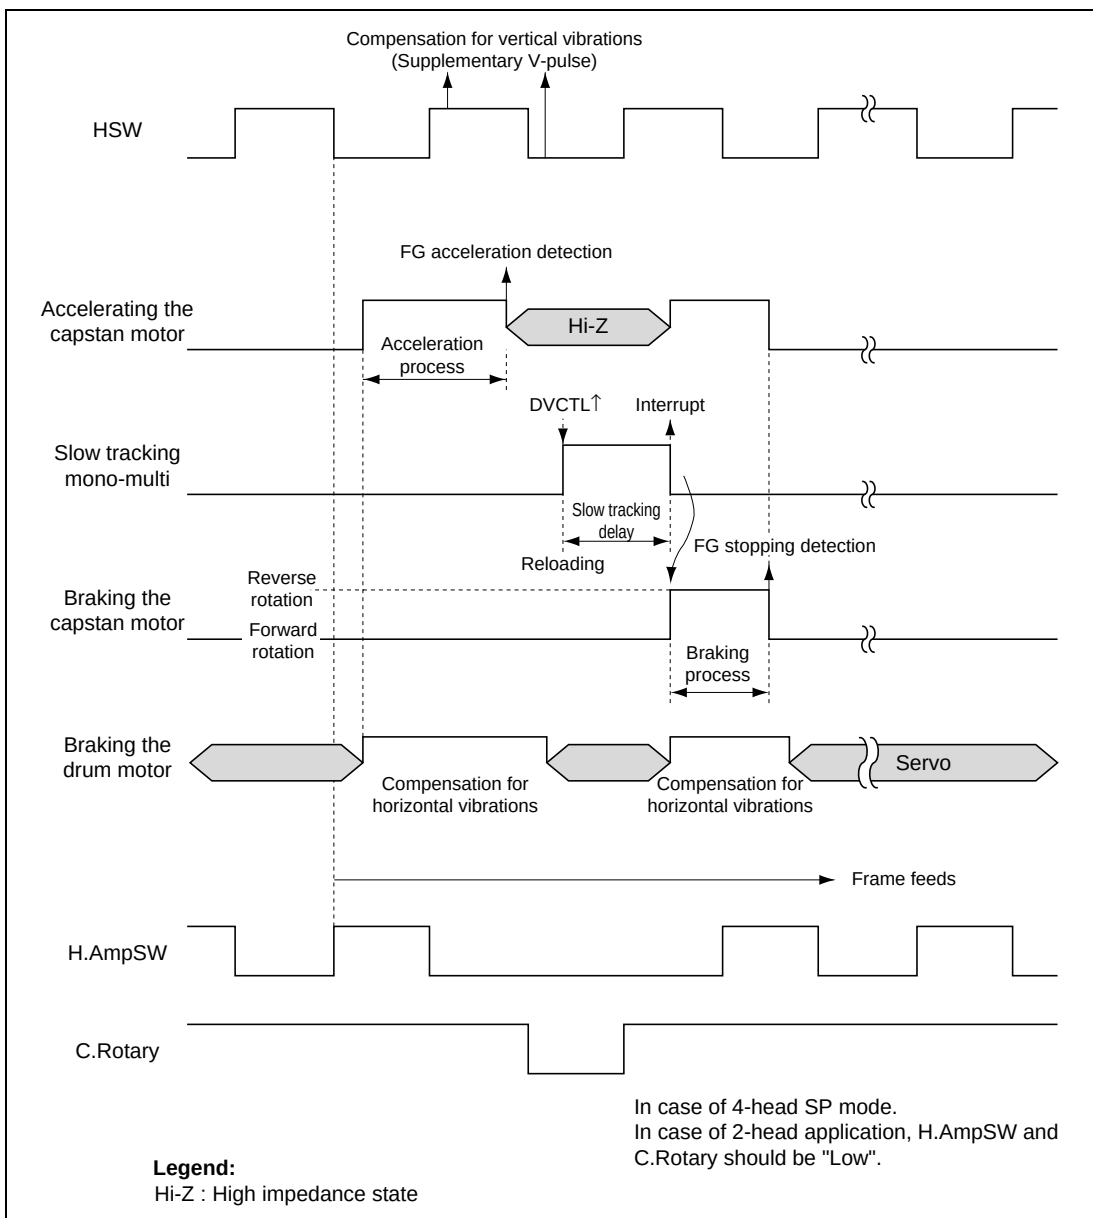

**Figure 15.2 Time Series Movements when a Slow Reproduction Is Being Performed**
When performing slow reproductions or still reproductions, the braking timing for the capstan motor is determined by use of the edge of the DVCTL signal. The slow tracking mono-multi function works to measure the time from the rising edge of the DVCTL signal down to the desired point to issue the interrupt request. In actual programming, this interrupt should be used to activate the brake of the capstan motor. The TMRU-3 should be used to perform time measurements for the slow tracking mono-multi function. Also, the braking process can be made using the TMRU-2. Figure 15.2 shows the time series movements when a slow reproduction is being performed.
- Regarding the delaying duration, see figure 15.2.
- Regarding the duration until the acceleration process finishes, see figure 15.2.
- Regarding the duration until the braking process finishes, see figure 15.2.